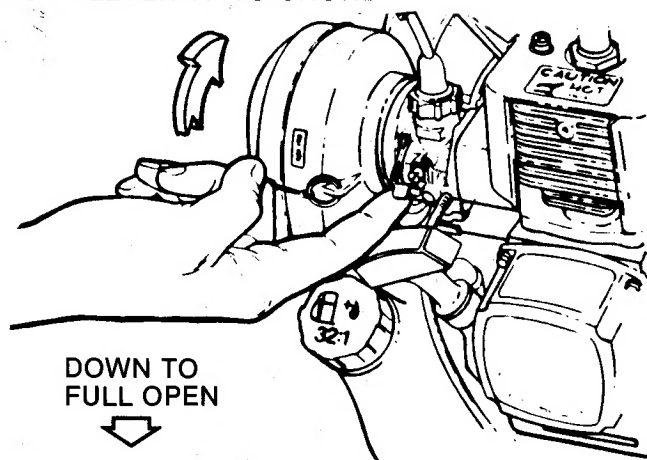

FIG. 2 -- CHOKE OPERATION
**STEP 1:** Move the CHOKE LEVER up to closed position (figure 2). Note: Little or no choking required with warm engine.